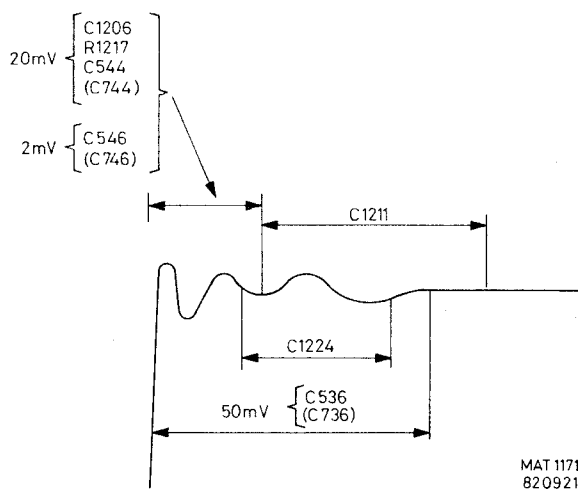

Fig. 5.6. Adjustment of HF square-wave response
- Apply to X2 (A) a square-wave signal at 120mV, frequency 1MHz and with a rise-time $\leq 1\text{ns}$.
- Using C1211 and C1244 (fig. 5.2.) adjust the square-wave response as straight as possible (see fig. 5.6.).
- Using C1206, R1217 and C544 (fig. 5.2.) adjust the square-wave response as straight as possible (fig. 5.6.).
- Apply to X2 (A) a square-wave signal of 300mV, frequency 1MHz and with a rise-time $\leq$ 1ns.
- Using C536 (fig. 5.2.) adjust the square-wave response as straight as possible (see fig. 5.6.).
- Apply (via a 20dB attenuator, if generator output voltage is too high) to X2 (A) a square-wave signal of 12mV, frequency 1MHz and with a rise-time $\leq$ 1ns.
- Using C546 (fig. 5.2.) adjust the square-wave response as straight as possible (fig. 5.6.).
- Apply to X4 (B) a square-wave signal of 120mV, frequency 1MHz and with a rise-time $\leq$ 1ns.
- Using C744 (fig. 5.2.) adjust the square-wave response as straight as possible (fig. 5.6.).
- Apply to X4 (B) a square-wave signal of 300mV, frequency 1MHz and with a rise-time $\leq$ 1ns.
- Using C736 (fig. 5.2.) adjust the square-wave response as straight as possible (see fig. 5.6.).
- Apply to X4 (B) a square-wave signal of 12mV, frequency 1MHz and with a rise-time $\leq$ 1ns (via a 20dB attenuator, if generator output voltage is too high).
- Adjust with C746 (fig. 5.2.) the square-wave response as straight as possible (fig. 5.6.).
5.5.5.5. Square-wave response channel A (B) invert
- Depress A (B) of S1.
- Depress A (B) of S23.
- Apply a square-wave signal, frequency 1MHz, rise-time $\leq$ 1ns to input A (B).